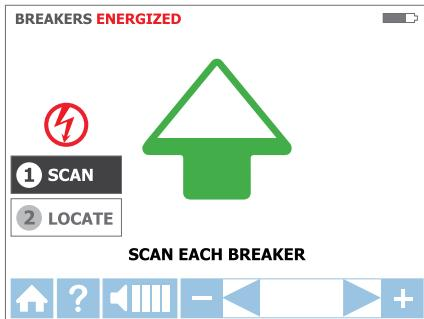

Figure 3.4b
3. **Step 1 - ① SCAN:**
- a. The unit will automatically start in **① SCAN** mode as shown in Figure 3.4b.